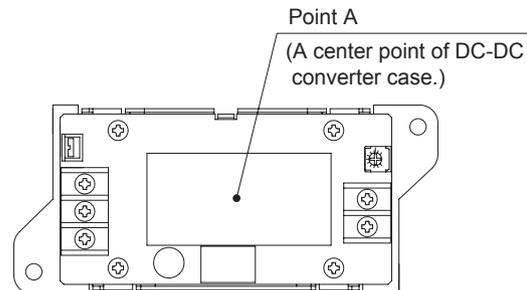

Fig.5.2 STMGFS30/STMGF30 Temperature Measuring Point
■ In case of forced air cooling, please have sufficient ventilation to keep the temperature of point A in Fig.5.2 at 110°C or below.